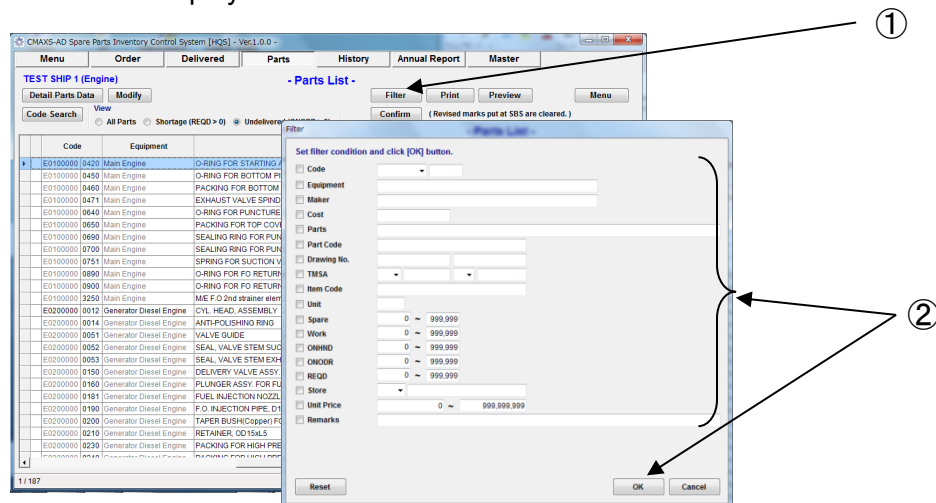

Fig.18-2 Filter Screen
- (1) Select [Filter] on the "Parts List Screen" (Fig.18-2).
- (2) Select or input extracting conditions. Then, select [OK].